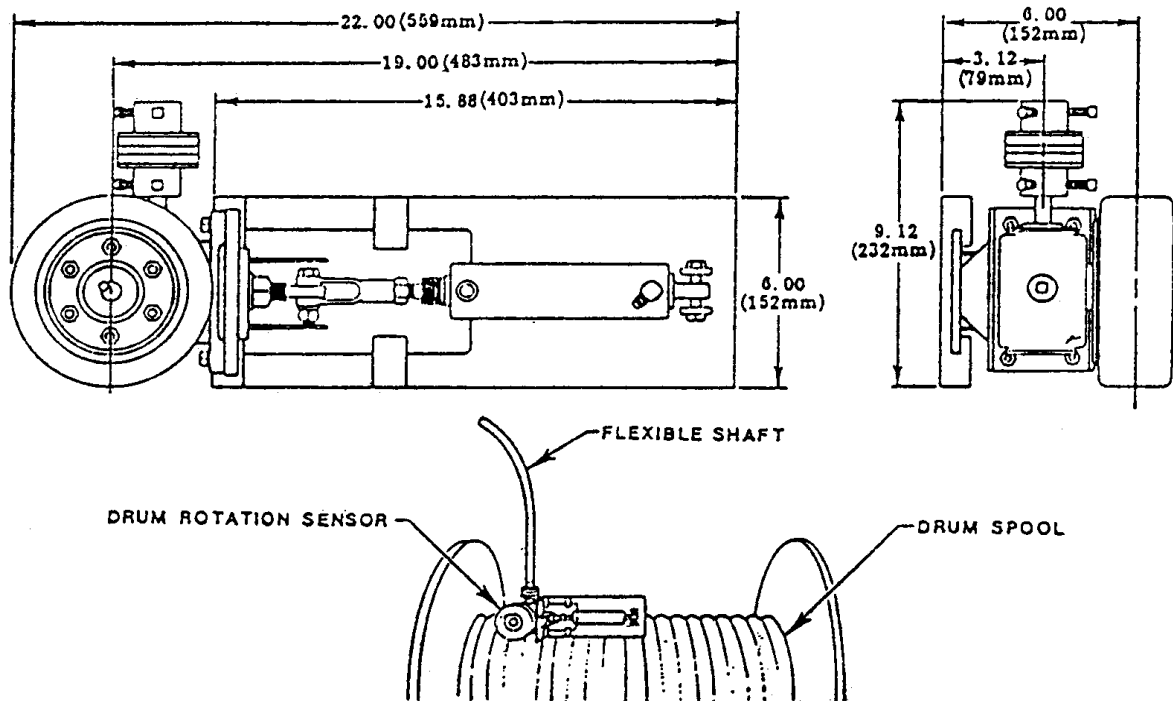

Figure 3-2
3.04 Drum Rotation Sensor Installation: Locate the drum rotation sensor inside the drum guard in a position to allow the flexible shaft a smooth curve to the differential gear assembly. In locating the drum rotation sensor consideration must be given to two requirements: The flexible shaft must form a smooth curve to the differential gear assembly and the rubber tired friction wheel must be .75 inch (19mm) l from the drum spool flange, as close as possible to the rim. Refer to Figure 3-2 for overall mounting dimensions.